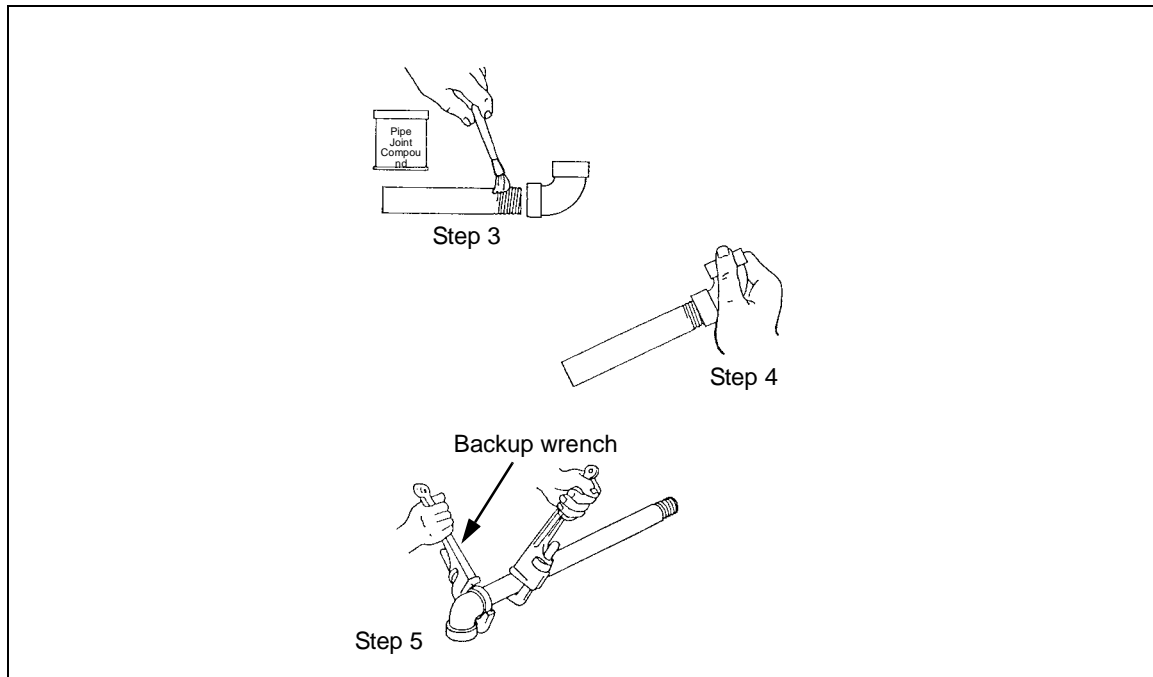

Figure 6-30. Joining Threaded Pipe
6-60. Fittings are normally screwed to the pipe after it is threaded, while the pipe is still in the vise. This ensures a good fit. The assembled pipe and fittings should then be screwed into the proper place in the installation. Use *Figure 6-30* and the following joining steps:
Step 3. Apply pipe-joint compound or Teflon tape to the *pipe* threads only (Figure 6-30).
Step 4. Screw the fitting on, hand tight (Figure 6-30).
Step 5. Tighten the fitting using two pipe wrenches, one on the fitting (backup wrench) and the other on the pipe (Figure 6-30), provided no vise is available. The backup wrench keeps the fitting from turning.